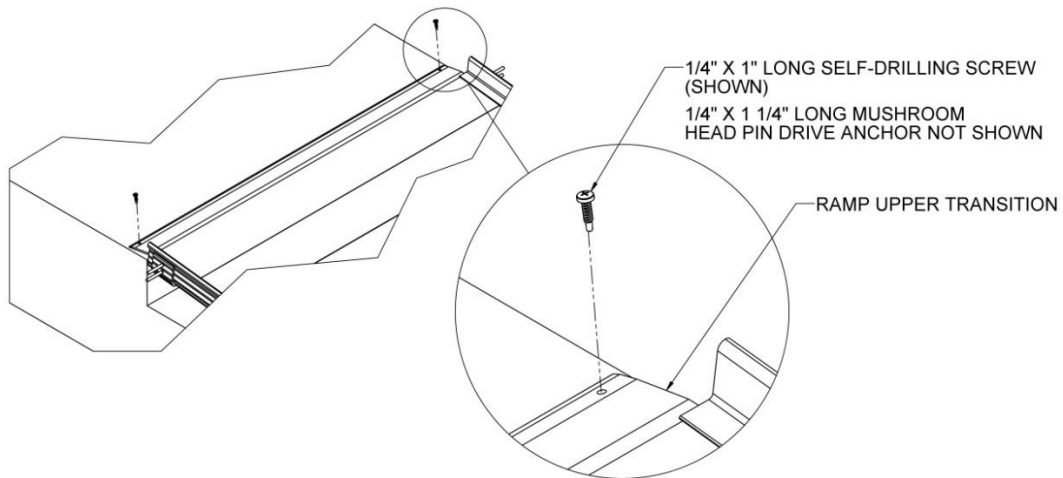

FIG. 3.16
- 3.6.1.1. Secure PRUT (RAMP UPPER TRANSITION) by installing the 1/4" x 1" long self-drilling screw through each hole (FIG. 3.16)